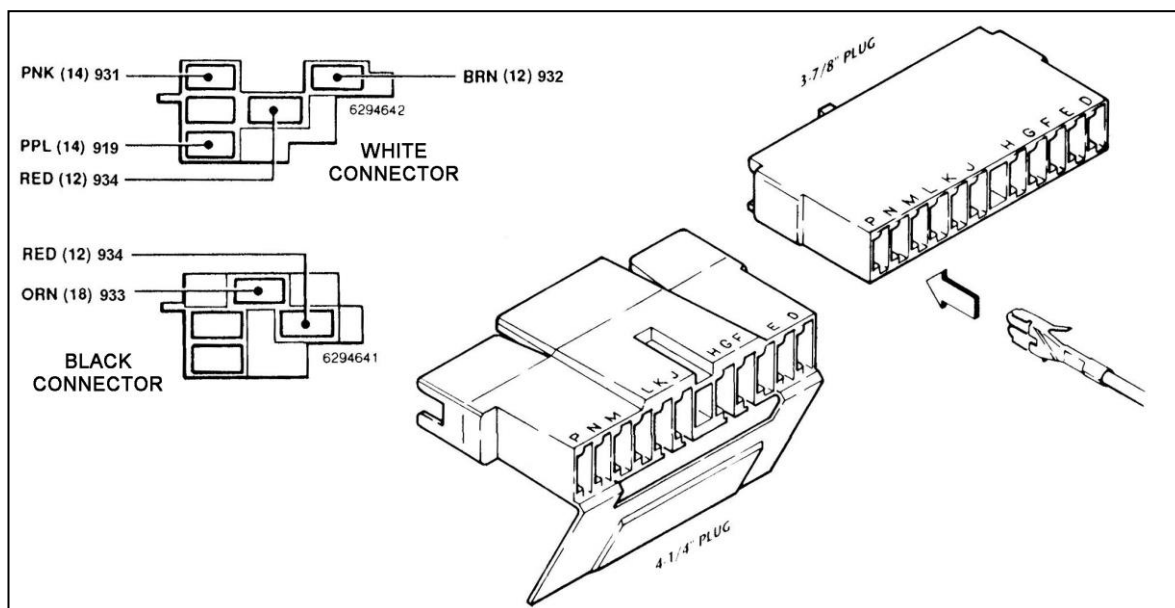

Figure 7-5 GM Turn Signal Connectors
- 7.4.1** There are two different plugs on most tilt columns. The difference is in the length of the male plug that is mounted ON THE COLUMN. One plug is 3-7/8" (3.875") long and the other is 4-1/4" (4.250"). This is only a difference of 3/8" (0.375"), so measure the plug carefully. The Wire Harness Kit has included two different female connectors to mate with the column-mounted plug. See **Figure 7-5** to determine which female connector is correct for your automobile.
The TURN SIGNAL SECTION wires may have already been terminated for you. If not, cut wires to length and install the terminals provided. Choose the proper plug and install the terminals according to **Table 7-1**, as shown in **Figure 7-5**. The GM wire color codes have been included for reference. **Note:** The terminals will only insert into the connector ONE WAY, as shown in **Figure 7-5**. Make certain you are inserting the wire into the CORRECT LOCATION as the terminals are difficult if not impossible to remove once inserted.
- 7.4.2** Some harness' come with the GM ignition switch connectors pre-wired. See **Table 7-1** and **Figure 7-5** for color codes, wire numbers, and wire designations for the Ignition Switch Connectors.